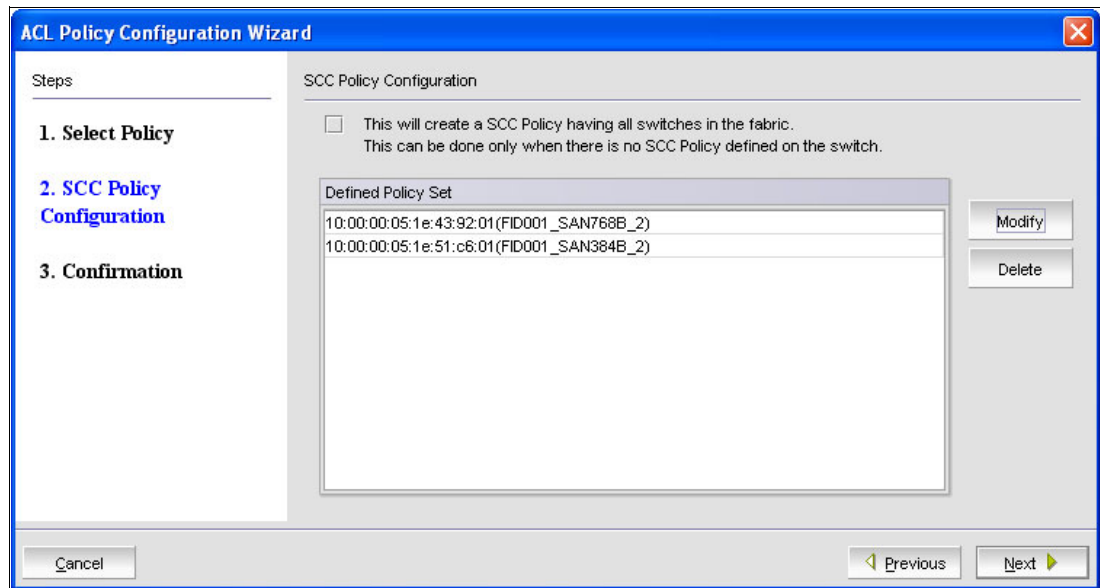

Figure 8-65 Modify WWNNs of Directors
10. Click **Modify** to add the WWNNs of the two Directors shown in Figure 8-65.